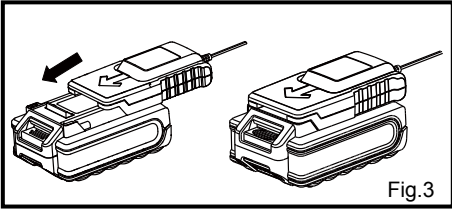

Fig.3
Charger Operation (See Fig. 3)
- Align the battery pack to the slots on the charger. Slide the battery pack in until it locks into place (Fig. 3).